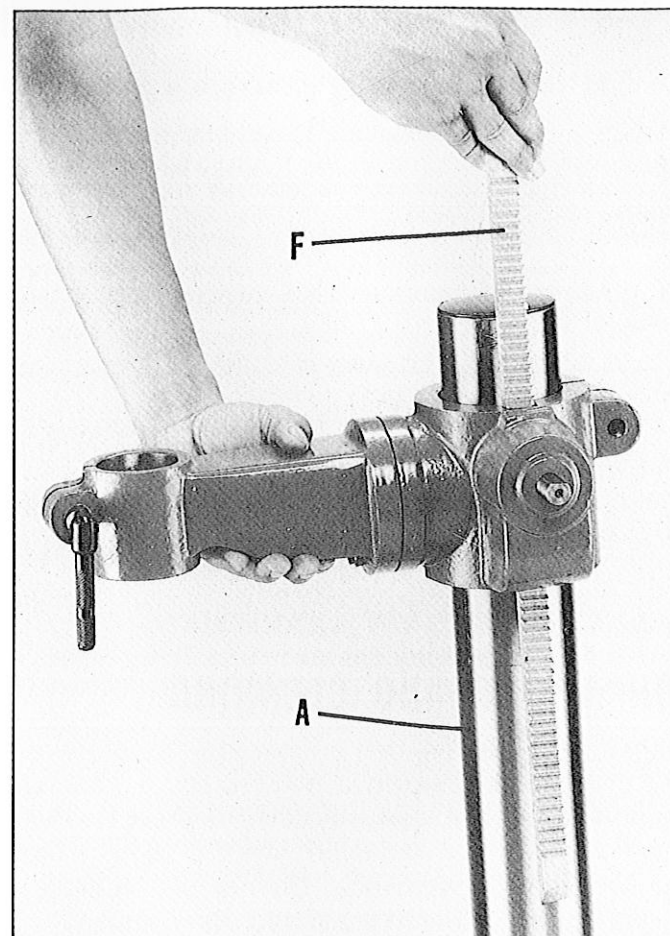

Fig 4
3. Place rack (F) in position in table bracket, as shown in Fig. 4 and slide rack and table bracket onto column (A).